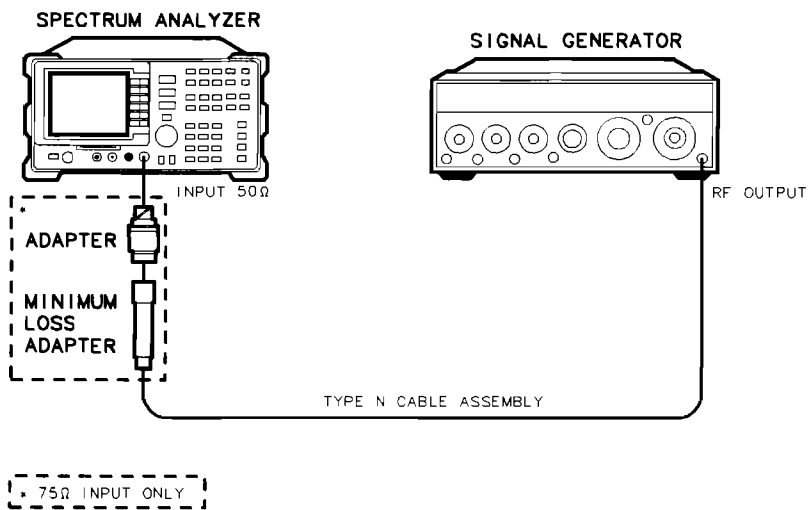

Figure 2-7. Noise Sidebands Test Setup
- Connect the equipment as shown in Figure 2-7.